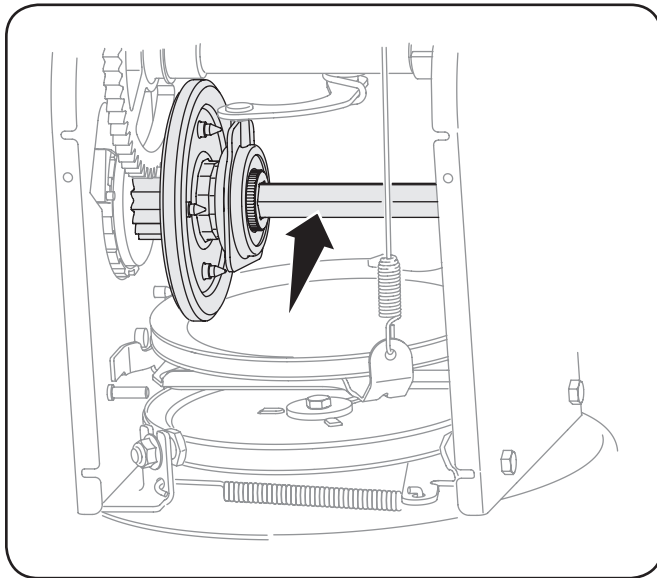

Figure 6-3
3. Apply a light coating of engine oil (or 3-in-1 oil) to the hex shaft. See Fig. 6-3.
NOTE: To relieve pressure, remove the vent plug before lubricating the gear case. See Figure 6-3. Failure to do so could result in damage to the gear case seals.